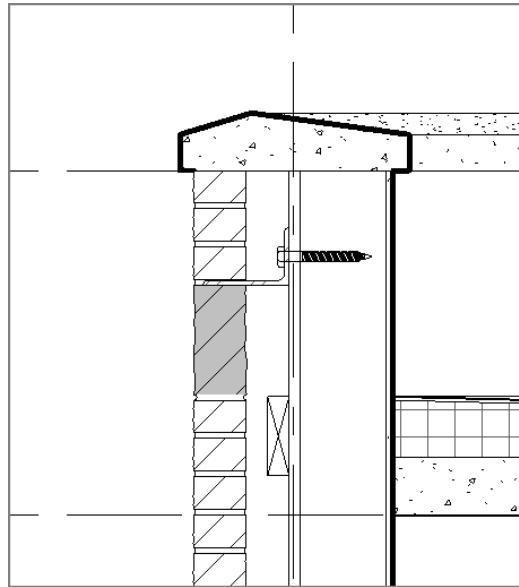

FIGURE 12.37: Adding the wood blocking
7. Select the Annotate tab, click the Component > Detail Component button, and place the 2×6 (51×152) into the wall, as shown in Figure 12.37.
12. Click **OK**. Your blocking should look like Figure 12.37.